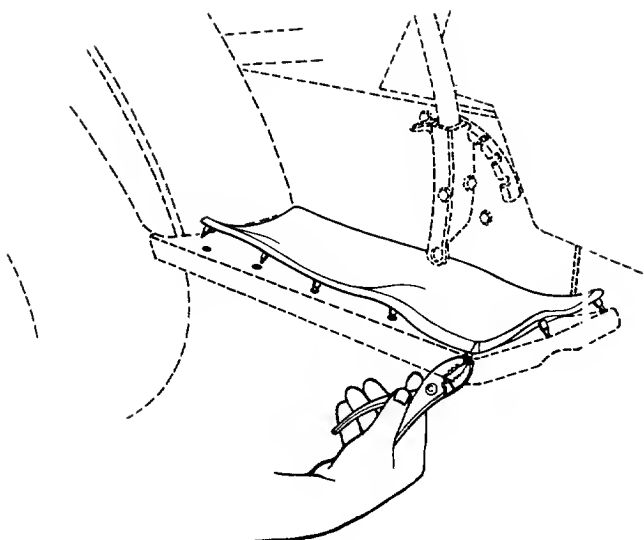

FIGURE 9.
1. Position one foot pad on top of the running board on the tractor, lining up the studs on the bottom of pad with the holes in the running board. Pull the studs through the holes in the running board using a pair of pliers. Repeat on other side of tractor. See figure 9.